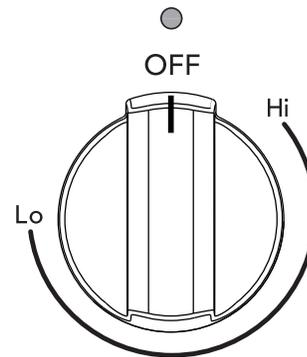

Figure 9: Keep warm knob
1. Push in the knob and turn in either direction (see Figure 9). The temperatures are designated by hi and lo. However, the control can be set at any position between hi and lo for different levels of warming.